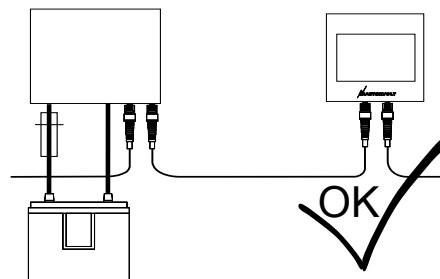

Figure 10
* See section 8.4, figure 10 for characteristics